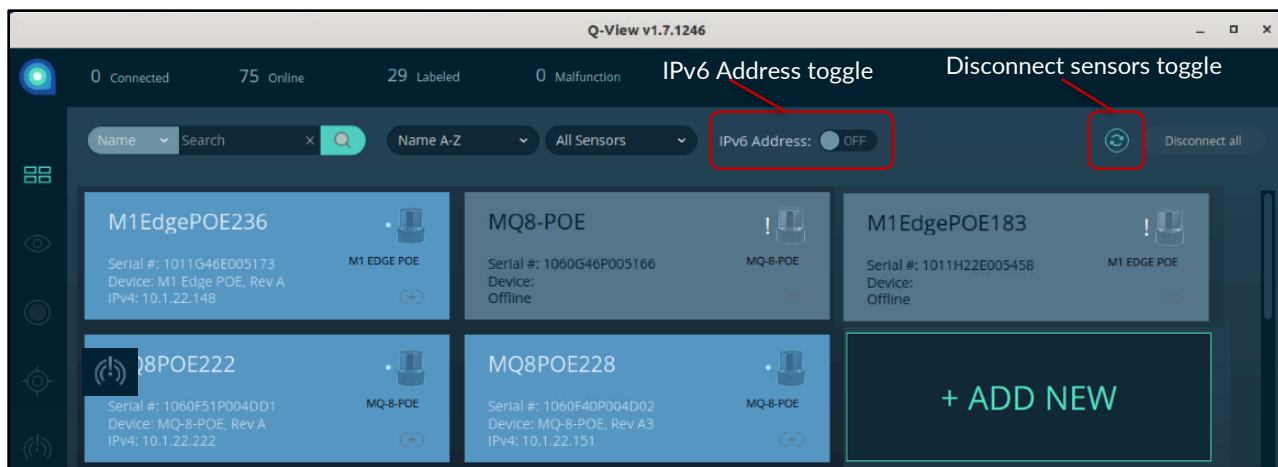

Figure 11. Q-View Scan Returns List of Sensors Found
- Q-View recalls all sensors that were found during previous work sessions. During the search, previously labeled sensors are represented briefly as tiles in the **Empty (transparent)** state. If they respond to Q-View query, they quickly change into the **Online (blue)** state, but if they never respond to the query, they change into the **Offline (gray)** state. Newly discovered sensors appear in the **Online (blue)** state. See Figure 11. Q-View Scan Returns List of Sensors Found and Table 9. Dashboard Tab: Sensor States.
1. Click the **Search** network  button to refresh the list. See Figure 11. Q-View Scan Returns List of Sensors Found.